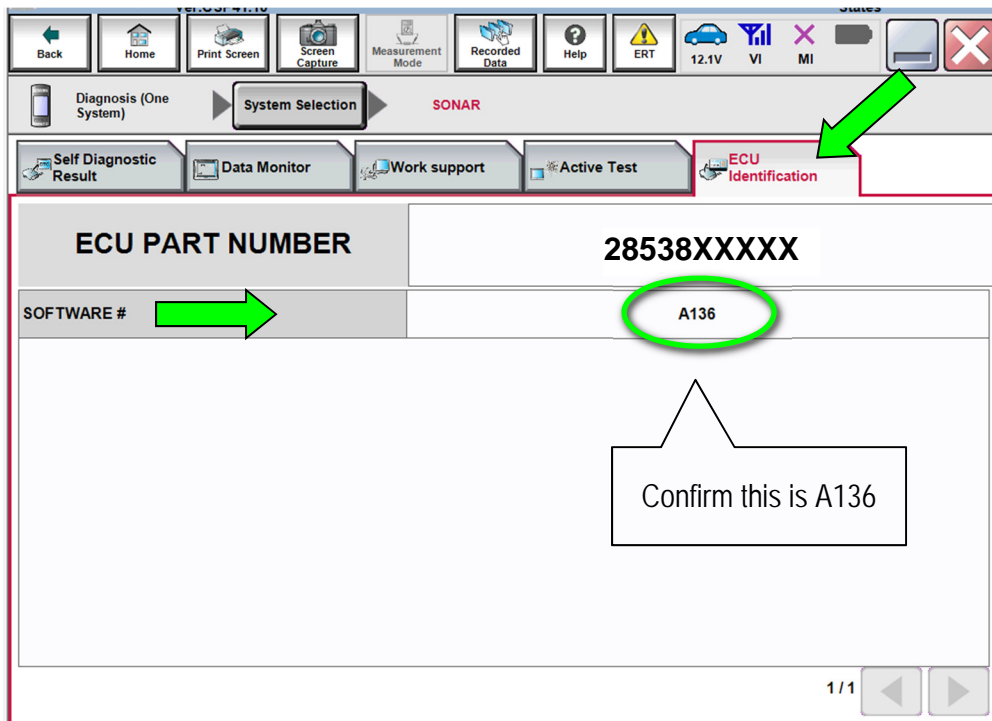

Figure 39
62. Confirm the SOFTWARE #. See Figure 39.